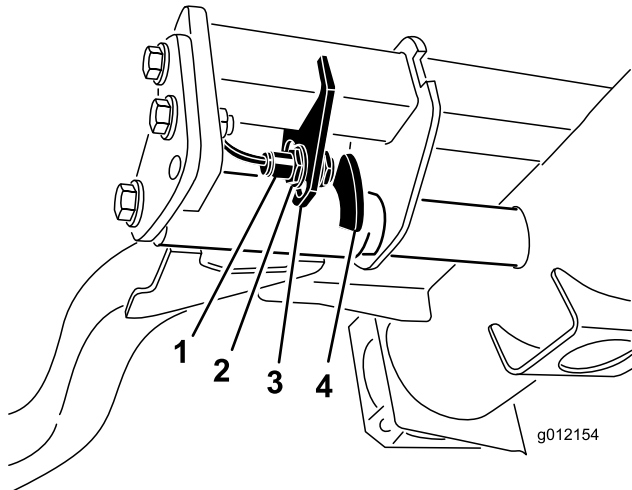

Figure 31
2. The lift arm switch is located underneath the hydraulic tank behind the front right lift arm (Figure 31).
- Loosen the switch mounting screws (Figure 31) and move the switch down to increase the lift arm turn around height or move the switch up to decrease the lift arm turn around height. Tighten the mounting screws.